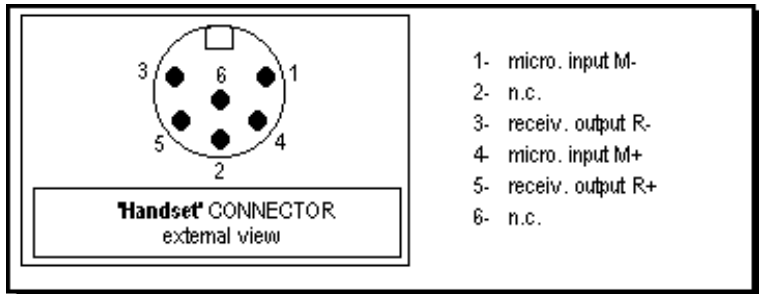

fig.5
- Link to the "HANDSET" connector of **FC-4** the terminals of telephone circuit under test, as indicated in fig.5. Therefore the transmitter capsule will be linked to terminals 4 and 1 of the "HANDSET" connector; the receiving capsule must be connected to 5 and 3 terminals.